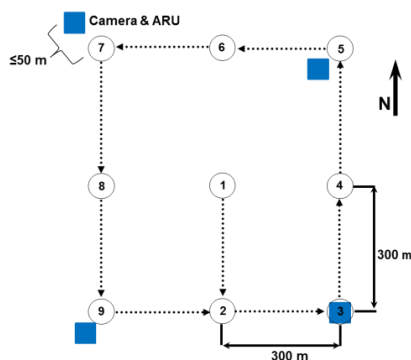
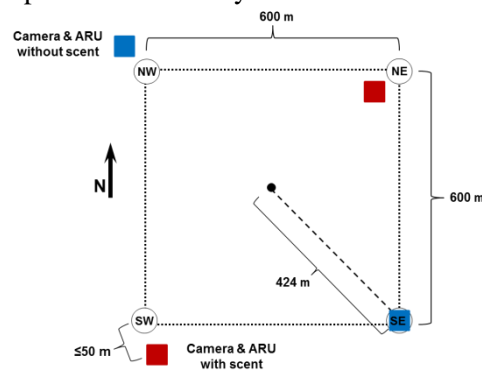
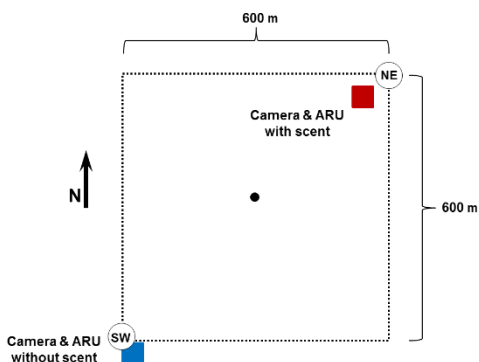

Figure 1. Placement of camera traps and ARUs relative to ABMI bird point count stations.
Figure 2. *Baseline Survey*: Cameras and ARUs are placed near the corner of a 600 x 600 m square centered on an ABMI site. The NE and SW corners are scented.
Figure 3. *Revisit Survey*: Cameras and ARUs are placed near NE and SW corners of a 600 x 600 m square centered on an ABMI site. The NE corner is scented.
- *At baseline survey sites*: Four remote cameras are placed in a square approximately 600 m apart centered on an ABMI site (i.e. near the corners of the original bird point count stations; Figure 1) to record mid- and large-sized mammals (Figure 2).
- In the green zone, cameras and ARUs are placed within 50 m of each station in a habitat similar to that of the grid corner (Figure 2).
- Scent is placed at NE and SW corners at deployment (baseline survey) (Figure 2) or at the NE corner (revisit survey) (Figure 3).